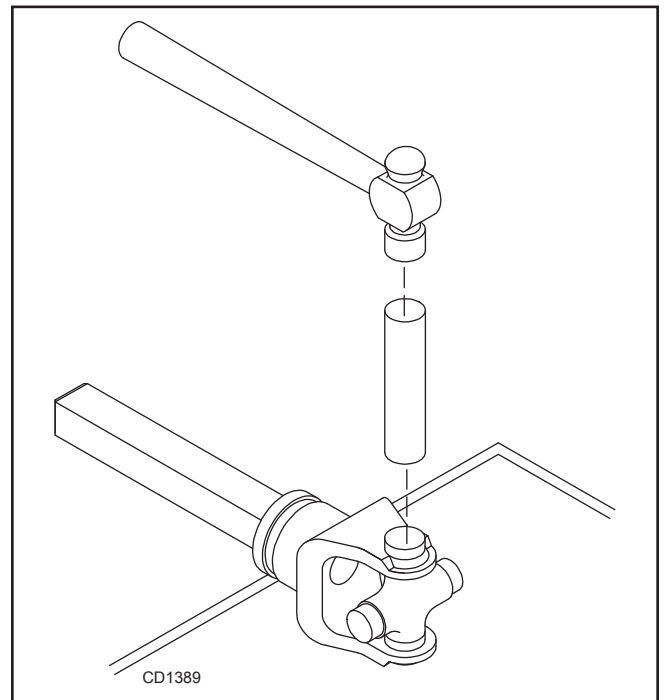

Figure 26. Install Cups
3. Seat cups by placing a drift or socket (slightly smaller than the cup) on cup and rap with a hammer. See Figure 26. Install snap ring and repeat on opposite cup